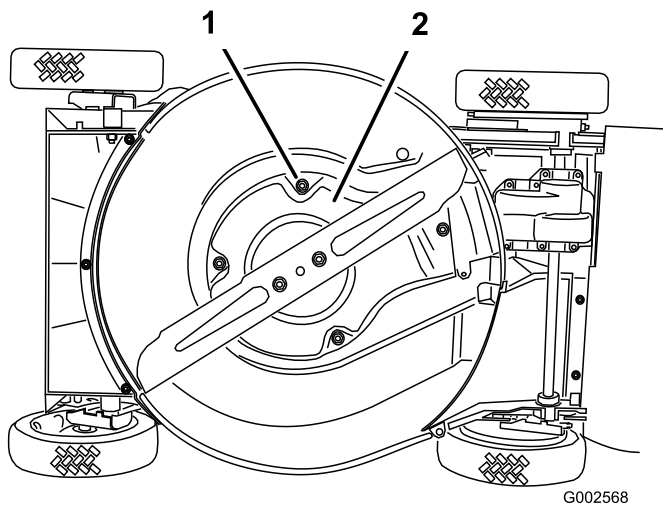

Figure 36
6. Loosen the 4 screws that hold the shield in place (Figure 36).